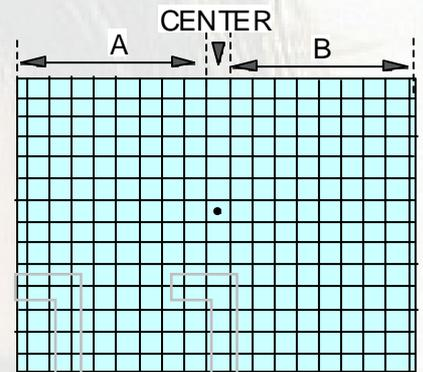

Fig.2-2 NTSC cross hatch
2. Use the [VOLUME +/-] of the jig remote control and adjust so that the dot mark at the center of crosshatch screen is positioned at the center mark on CRT and the numbers of squares in the right and left on the screen are equal (A=B). (Fig. 2-2.)